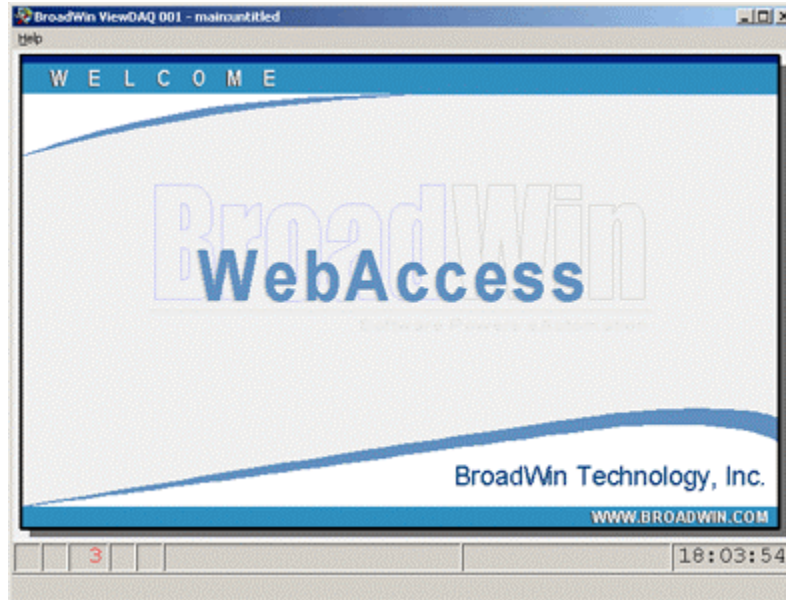

Figure 17-16 ViewDAQ Welcome - no toolbar - Press Enter to continue
5. Welcome to ViewDAQ opens without Toolbar (Figure 17-16).